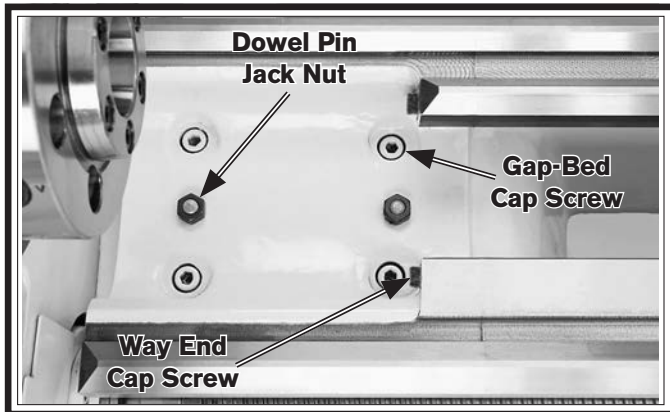

Figure 138. Fasteners holding gap in place.
1. Remove the four gap-bed cap screws, shown in **Figure 138**.